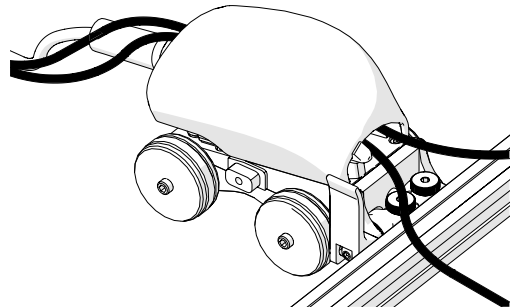

Fig. 95 - Cable management
2. Route cables and hoses through the cart handle as a means of cable management (Fig. 95)